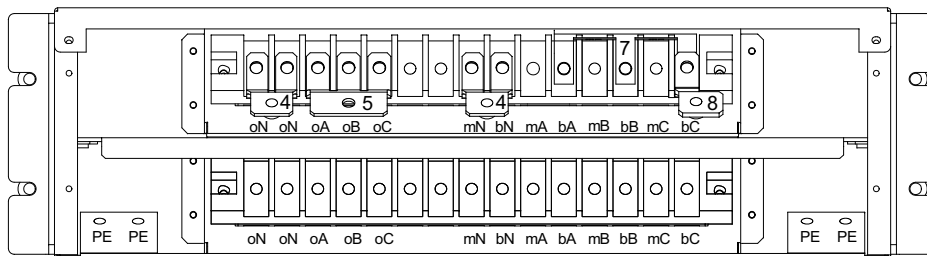

Figure 2-12 Shorted copper bar connection for the single POD user terminal block
1. Short the terminal bA, bB and bC of the single POD user terminal block using the shorted copper bar 7, short the terminal oA, oB and oC using the shorted copper bar 5, and then short mN and bN terminals, two oN terminals respectively using two shorted copper bars 4, as shown in Figure 2-12.
3. Connect the shorted copper bar 8 to one end of the shorted copper bar 7 (see Figure 2-12), and connect the live line (bypass input phase A) to the shorted copper bar 8.